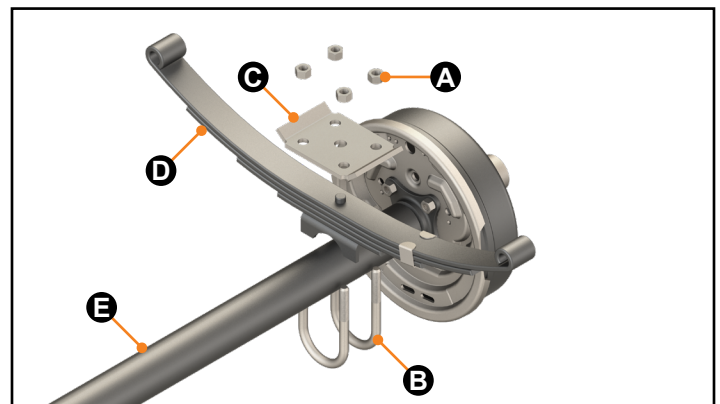

Fig.5
14. Place the new leaf spring (Fig. 5) onto the axle with the leaf spring clip pointing towards the front of the trailer. Make sure spring center bolt engages the center hole of the tie (spring) plate.